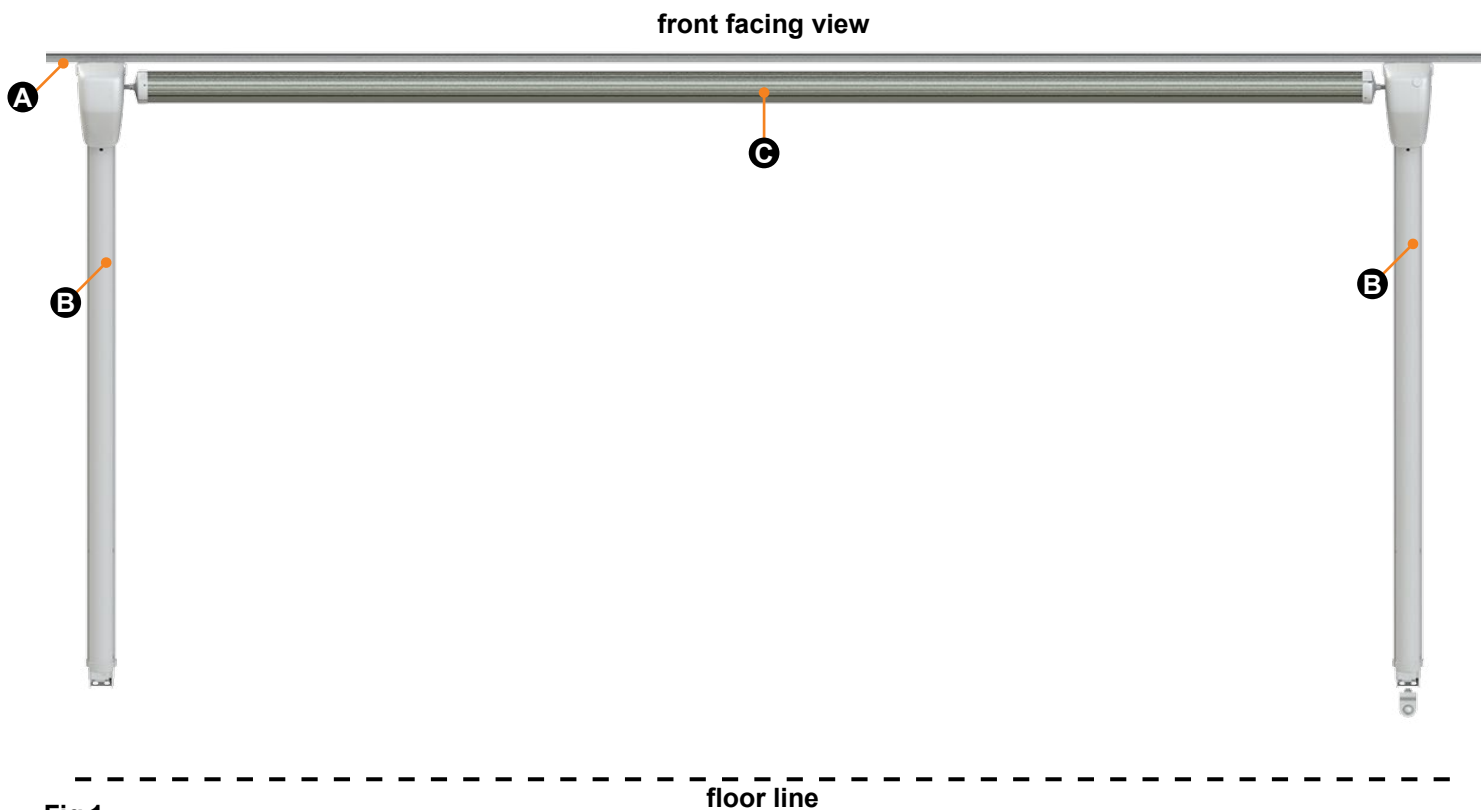

Fig.1
**NOTE:** The awning rail must be level and parallel with the floor line of the unit (**Fig.1**).